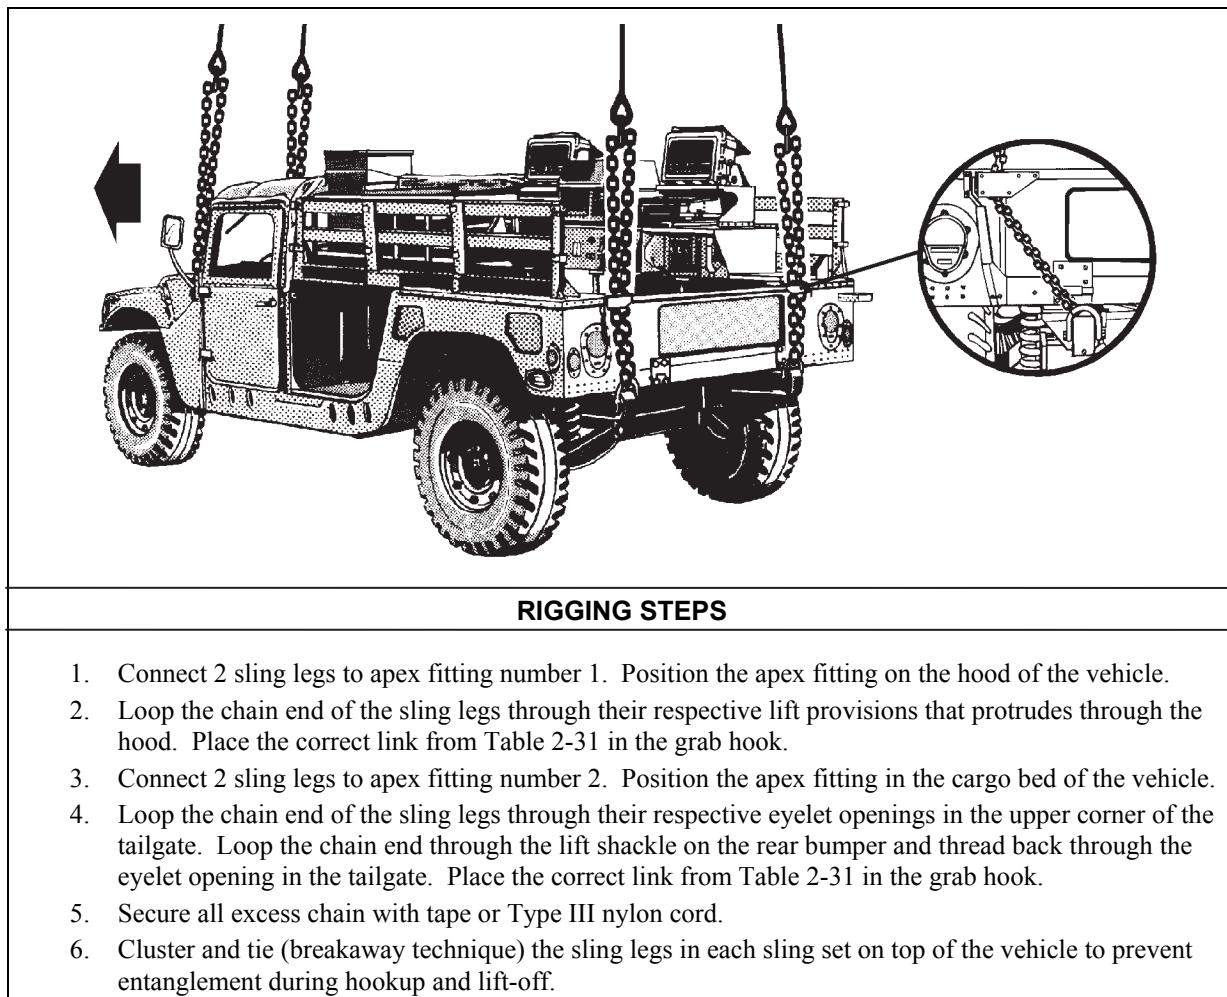

Figure 2-30. M998/M1038 with Lightweight Tactical Fire Control Systems Tactical Terminal Control Systems
- **Rigging.** Rig the load according to the steps in Figure 2-30.